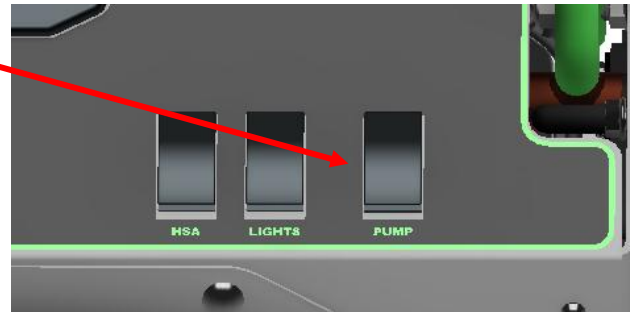

Fig. 1
- The spray boom can be raised or lowered individually by pressing the up\down buttons. You can stop the booms at level or they can be positioned  $-15^\circ$  for hill side spray (see Fig. 1).